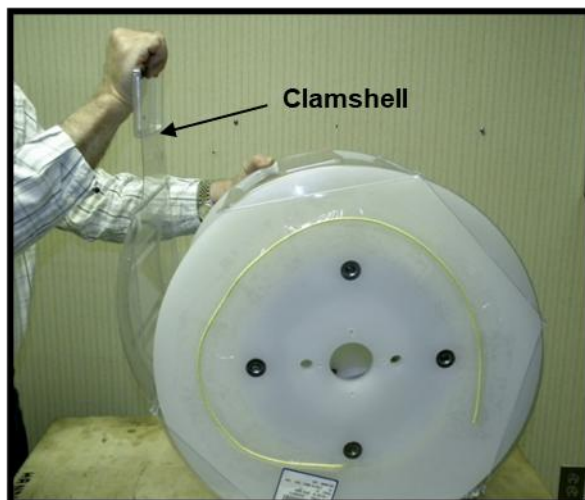

Figure 19
9.1 Remove the plastic protective cover (Clamshell) “Protective Wrapping” from the fiber reel. Do Not cut, damage or discard the protective cover. Be sure you Save it for re-use during fiber reel storage. **See Fig. 19.**